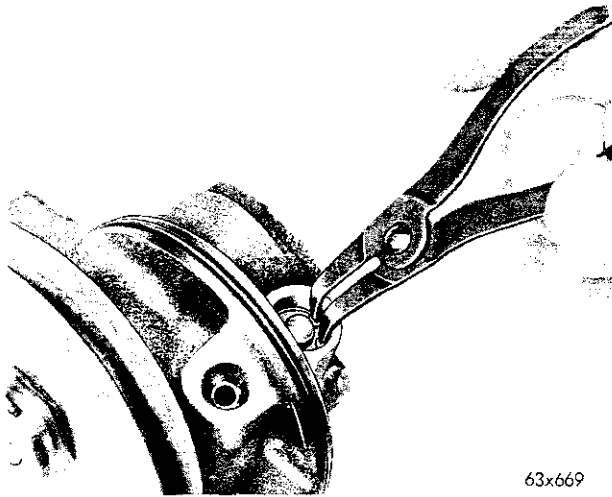

Fig. 58—Removing Flow Control Valve Retaining Ring
(1) With the pump reservoir removed, remove one of the flow control valve end plug retaining rings and end plug (Fig. 58).